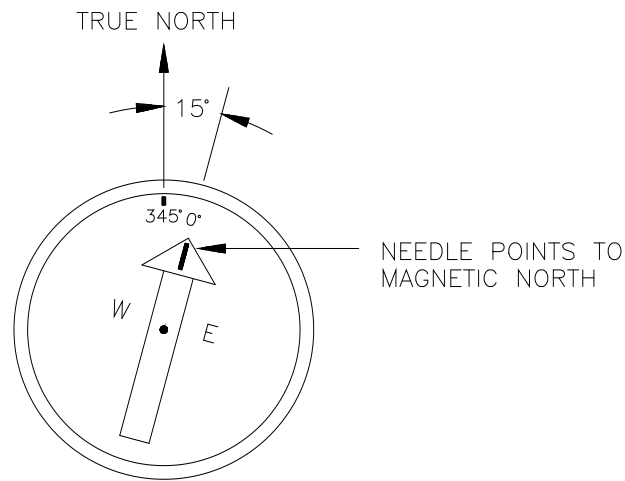
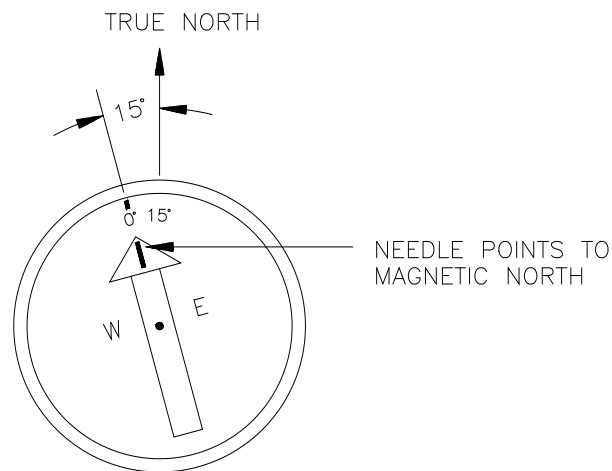

FIGURE A-2. A declination angle East of True North (positive) is subtracted from 360 (0) degrees to find True North
FIGURE A-3. A declination angle West of True North (negative) is subtracted from 0 (360) degrees to find True North
Declination angles are always subtracted from the compass reading to find True North. A declination angle East of True North is reported as positive a value and is subtracted from 360 (0) degrees to find True North as shown FIGURE A-2. A declination angle West of True North is reported as a negative value and is also subtracted from 0 (360) degrees to find True North as shown in FIGURE A-3. Note that when a negative number is subtracted from a positive number, the resulting arithmetic operation is addition.